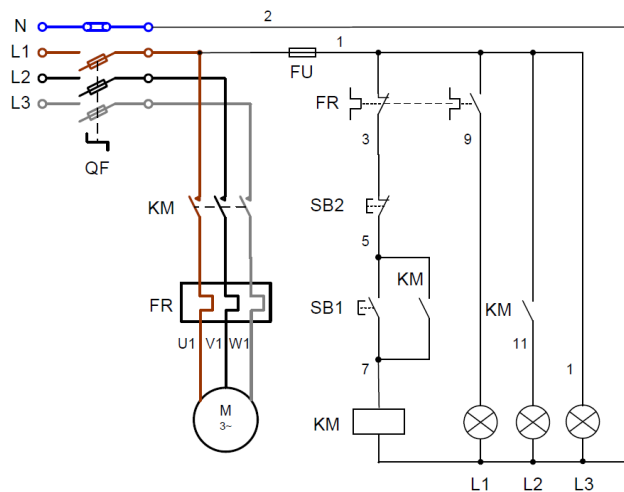

Fig. B1b
- (b) Fig. B1b shows a direct on line motor start control circuit. The circuit has 3-phase power wire connected with a motor and a control circuit.